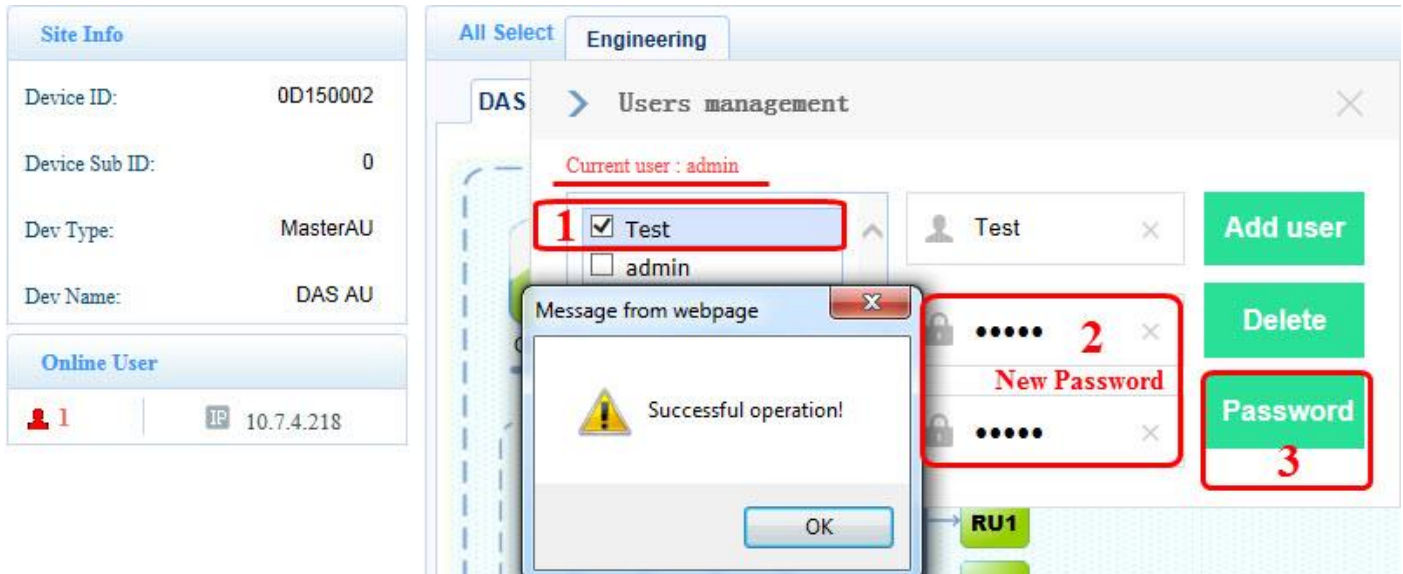

Figure 2-17 Change Password
- a) Choose the user need to change password. See 1 in the Figure 2-17.
- b) Enter the new password and confirm. See 2 in the Figure 2-17.